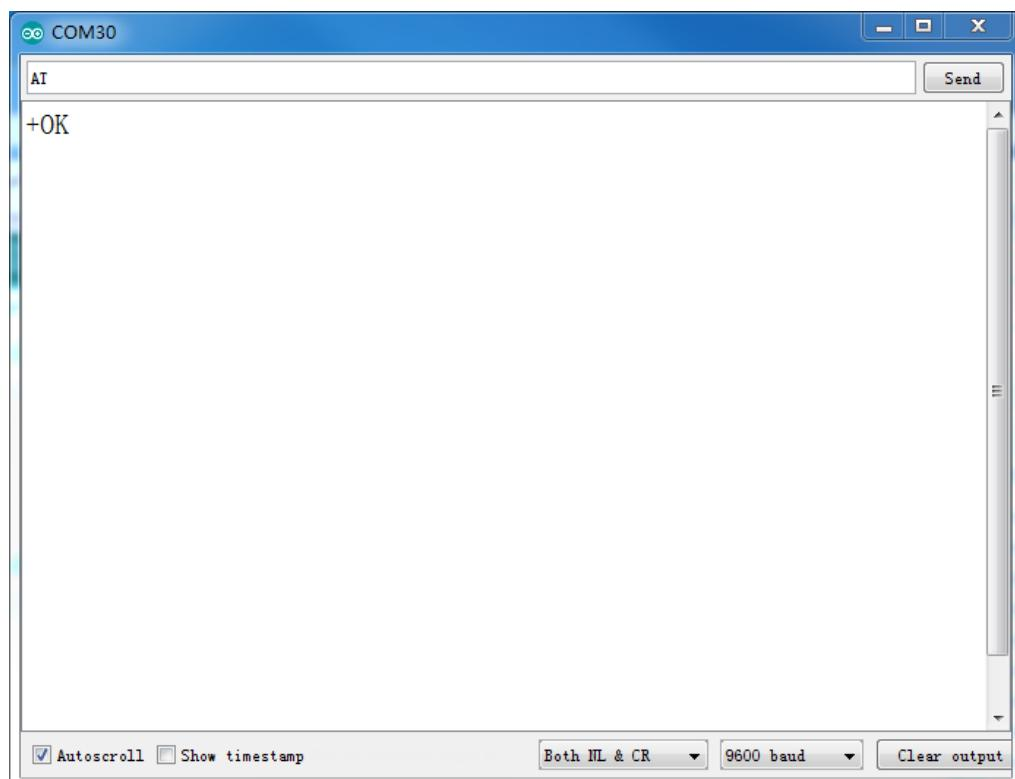
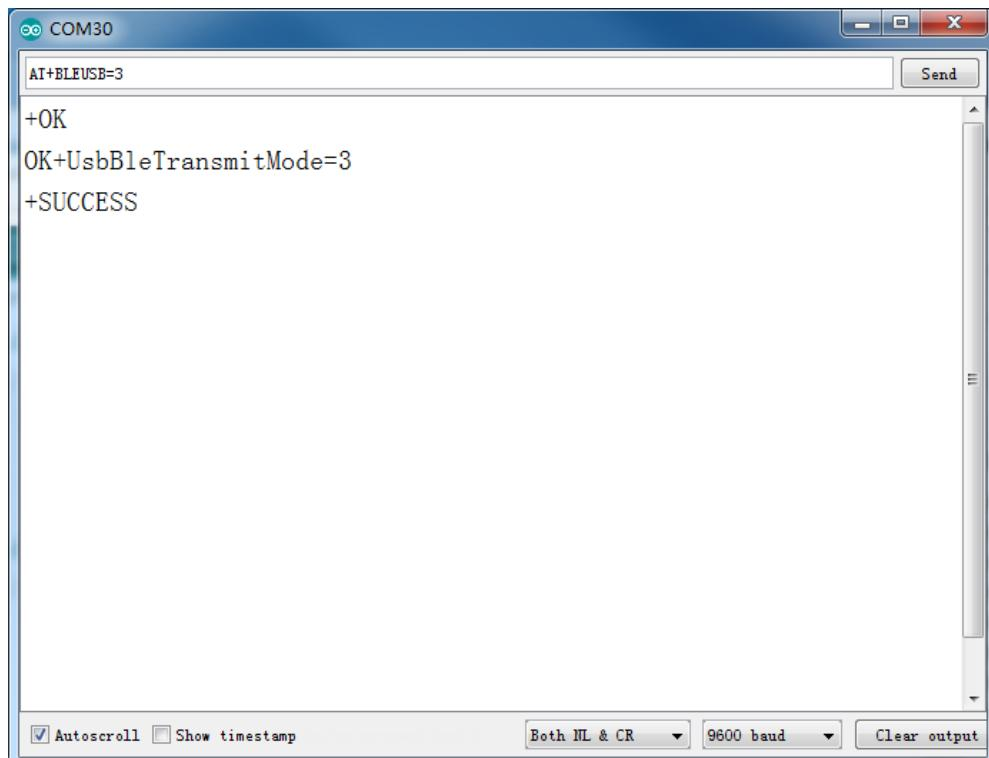

figure 4-8-3
figure 4-8-4
2、The test AT instruction is shown in figure 4-8-3. Set the USB and bluetooth data transmission mode of BLE-UNO to USB serial port data and BLE transmission as shown in figure 4-8-4